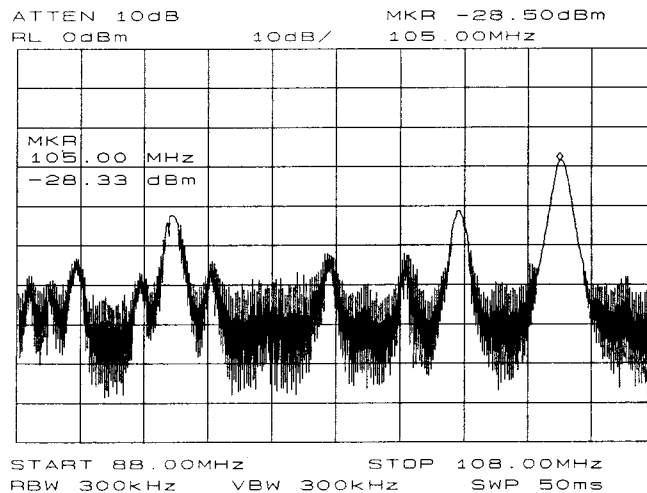

Figure 3-14. Place a marker on the signal of interest, then demodulate.
- To demodulate an FM signal, a marker must be activated before the demodulator is turned on. For easier use, the AM/FM demodulation menu contains the marker functions. Pressing **AUX CTRL**, then **AM/FM DEMOD** will show the demodulation menu. Activate a marker by pressing **MARKER NORMAL**. Position the marker on the signal of interest. If the signal of interest is the highest in amplitude, press **PEAK SEARCH** directly, as in Figure 3-14.